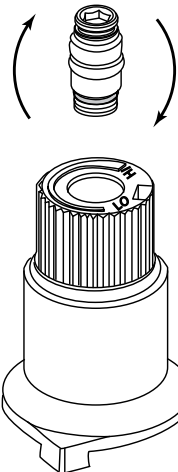

Fig. 75
- Check that the screw is clean and if necessary remove dirt. Flip the screw. (Figure 75)